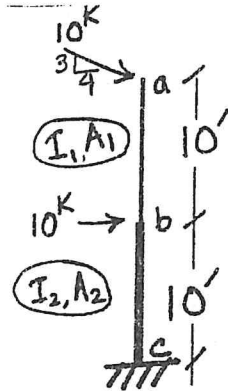

Fig. 3
2. (a) Using the method of virtual work, find horizontal deflection of point **a** of the column shown in Fig. 3. Consider that deflection of each member is caused by the axial, shear and bending strain energy. Given that $E = 29000 \text{ ksi}$, $\rho = 0.3$ and $K = 1.2$, $A_1 = 50 \text{ in}^2$, $A_2 = 1.2 A_1$, $I_1 = 200 \text{ in}^4$, $I_2 = 1.5 I_1$ (note: segment a-b is designated as 1 and segment b-c designated as 2). E , ρ and K are same for all sections. Use relevant chart as attached.